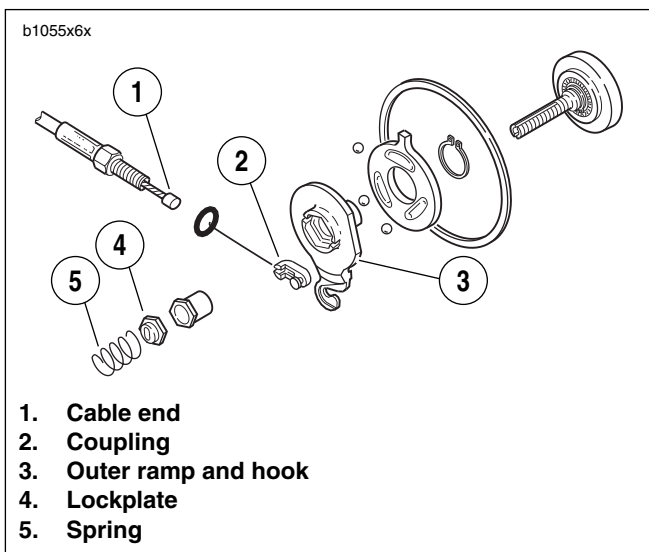

Figure 6-4. Clutch Release Mechanism
6. See Figure 6-4. Fit coupling (2) over cable end (1) with rounded side inboard and the ramp connector button outboard. With retaining ring side of ramp assembly facing inward, place hook of ramp (3) around coupling button and rotate assembly counterclockwise until tang on inner ramp fits in slot of primary cover.